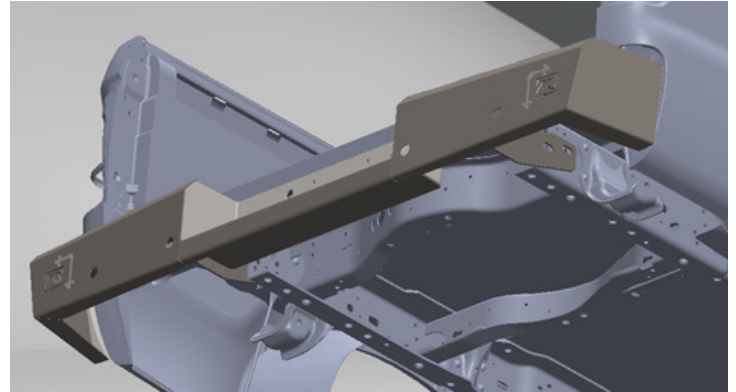

Figure 3
6. Replace OEM bumper with your new Fab Fours rear bumper assembly. Use the OEM fasteners to fasten the bumper to the frame rail in the OEM mounting locations. Do not fully tighten. (Figure 3)